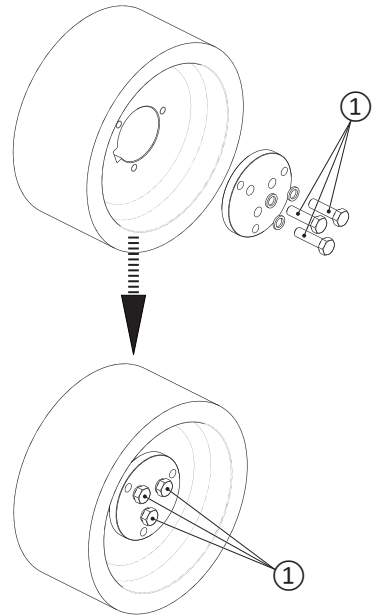

Figure 5
- Position the securing plate, grower and bolts as shown in "Figure 5".
- Tighten the bolts ① in circular sequence to a torque of 130 Nm.
① SCREWS M14x50